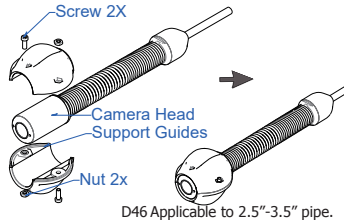

Figure 9. Install 46 Support Guides
a.Install 46 support guides. (Figure 9.)